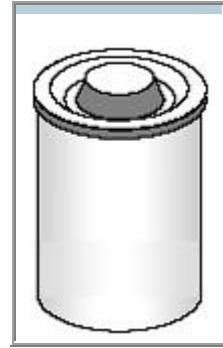

Figure 1. Film Canister with internal-sealing lid
- 1 35-mm film canister (with internal snapping lid; see Figure 1)